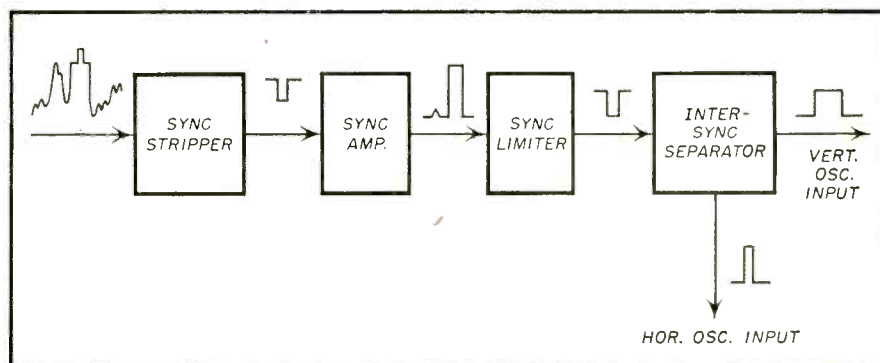

Fig. 1—Basic block diagram of sync section.
Fig. 1—(A) Original waveform of scene containing d-c level. (B) Same signal with d-c level removed. (C) simple d-c restorer circuit. (D) D-C level is maintained with a d-c restorer.
Fig. 1. If the transmitted scene is a bright one, it would tend to pull the signals toward the zero reference line and thus darken that area. With the dark levels, it would tend to pull those toward the zero reference line and then tend to lighten the levels. At the same time the levels of the sync tips would no longer be of similar amplitude. This means that retrace lines would become visible for some scenes if the brightness control and contrast control setting were not adjusted to maintain good blanking.
is that of a dark room with only small articles or objects visible. Thus, for instance, if an actor is walking through a dark room with a lighted candle, with d-c restoration the transmitted scene would be black with the candle light being white. Without d-c restoration, however, the room does not assume total blackness, but rather a dark gray and in some instances a light gray. This comes about because the constant line-by-line trace of a black or dark scene requires a constant level of video signal information. With d-c restoration this level is maintained as shown at *D* of Fig. 1.
Fig. 1 is a block diagram of these functions. Let us examine each block separately. In some sets we will find a separate tube for each function and in others several functions being per-